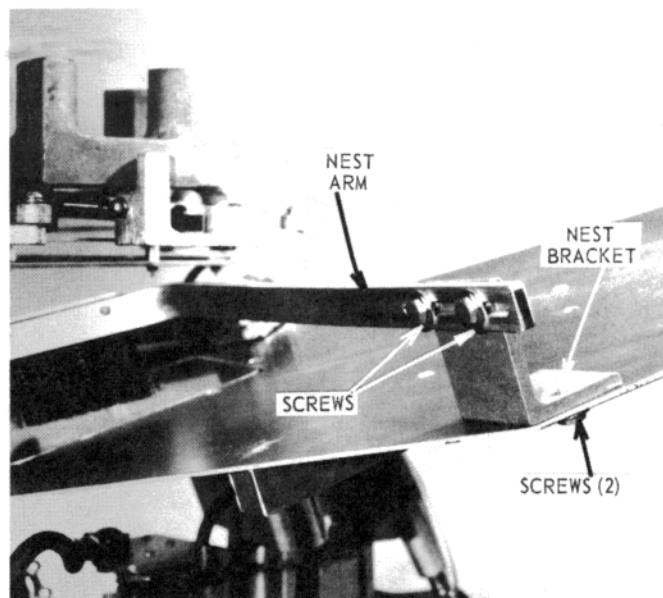

Figure 12 — Nest Arm and Nest Bracket Screws
6. Repositioning of the target nest arm is accomplished by loosening the two screws that hold the target nest bracket to the platform (see Figure 12) and pivoting the arm. Sideways positioning of the target nest arm is accomplished by loosening the two screws that hold the target nest arm to the target nest bracket (see Figure 12).